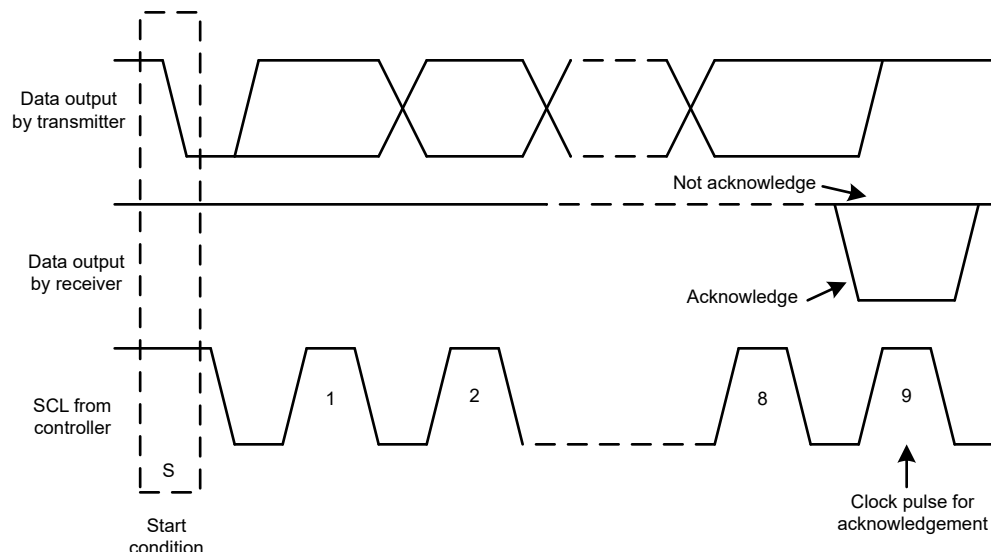
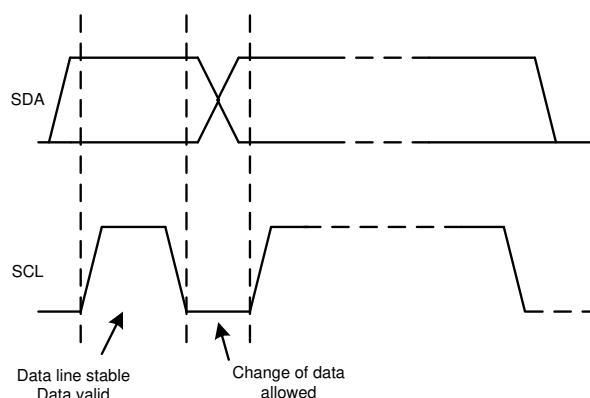

Figure 7-18. Acknowledge and Not Acknowledge on the I²C Bus
Figure 7-20. Bit Transfer on the I²C Bus
Other than specific timing signals, the I²C interface works with serial bytes. At the end of each byte, a ninth clock cycle generates and detects an acknowledge signal. An acknowledge is when the SDA line is pulled low during the high period of the ninth clock cycle. A not-acknowledge is when the SDA line is left high during the high period of the ninth clock cycle, as shown in Figure 7-18.
2. The controller then generates the SCL pulses, and transmits the 7-bit address and the read/write direction bit (R/W) on the SDA line. During all transmissions, the controller makes sure that data are valid. A valid data condition requires the SDA line to be stable during the entire high period of the clock pulse, as shown in Figure 7-20. All devices recognize the address sent by the controller and compare the address to the respective internal fixed address. Only the target device with a matching address generates an acknowledge by pulling the SDA line low during the entire high period of the 9th SCL cycle, as shown in Figure 7-18. When the controller detects this acknowledge, the communication link with a target has been established.